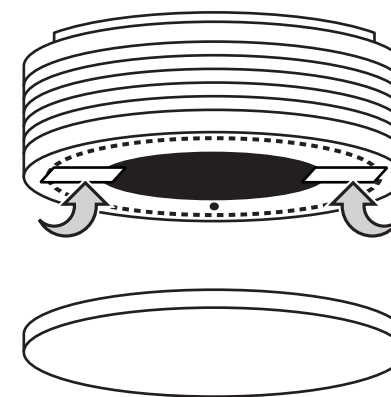

Figure 7
- Fold flaps to the inside and stick them with the seals on the device. The seals may not cover the identification label or the activation button (fig. 7).